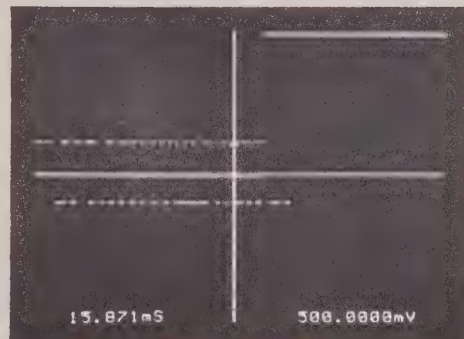

Figure 7-2
7.1.13. Position the crosshair over the level with the majority of data points, (Figure 7-2).